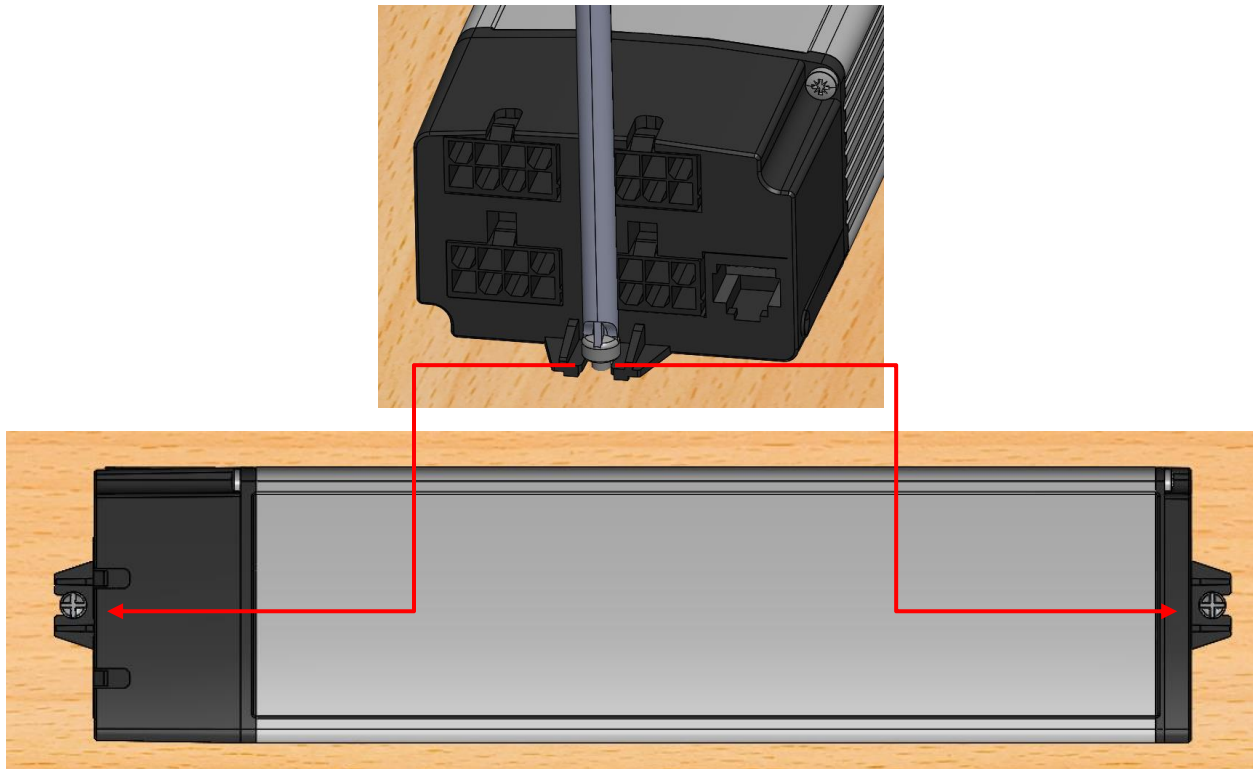

Figure 11 Attaching the electrical controller
- ➔ Fix the controller(s) tightly with screws (Figure 11). In this way, you avoid malfunctions caused by loose plug-in connections or undesirable noise development.